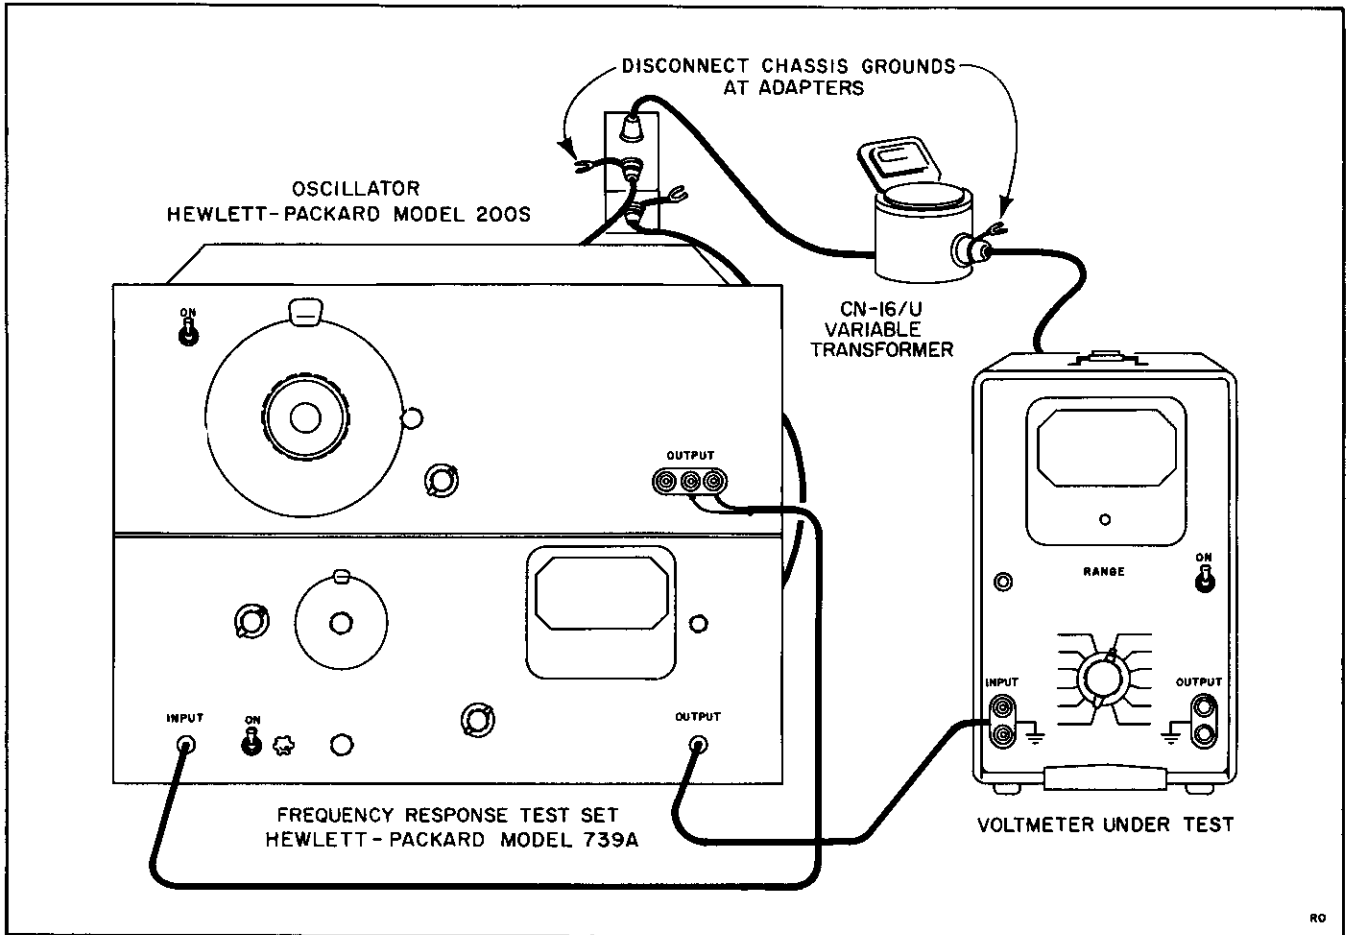

Figure 5-7. Test Setup for Frequency Response Check and Adjustment
i. Connect the voltmeter as shown in figure 5-7 and set line voltage to 115. (This setup measures calibration accuracy at low and high frequencies.)
f. Connect the frequency response test set, the oscillator, and the voltmeter under test as shown in figure 5-7. Observe grounding precautions described in step c.
4. SWITCH S1 IS SHOWN AS ELECTRICAL EQUIVALENT. SEE FIG. 5-7 FOR PHYSICAL LOCATION OF PARTS AND CONNECTIONS.